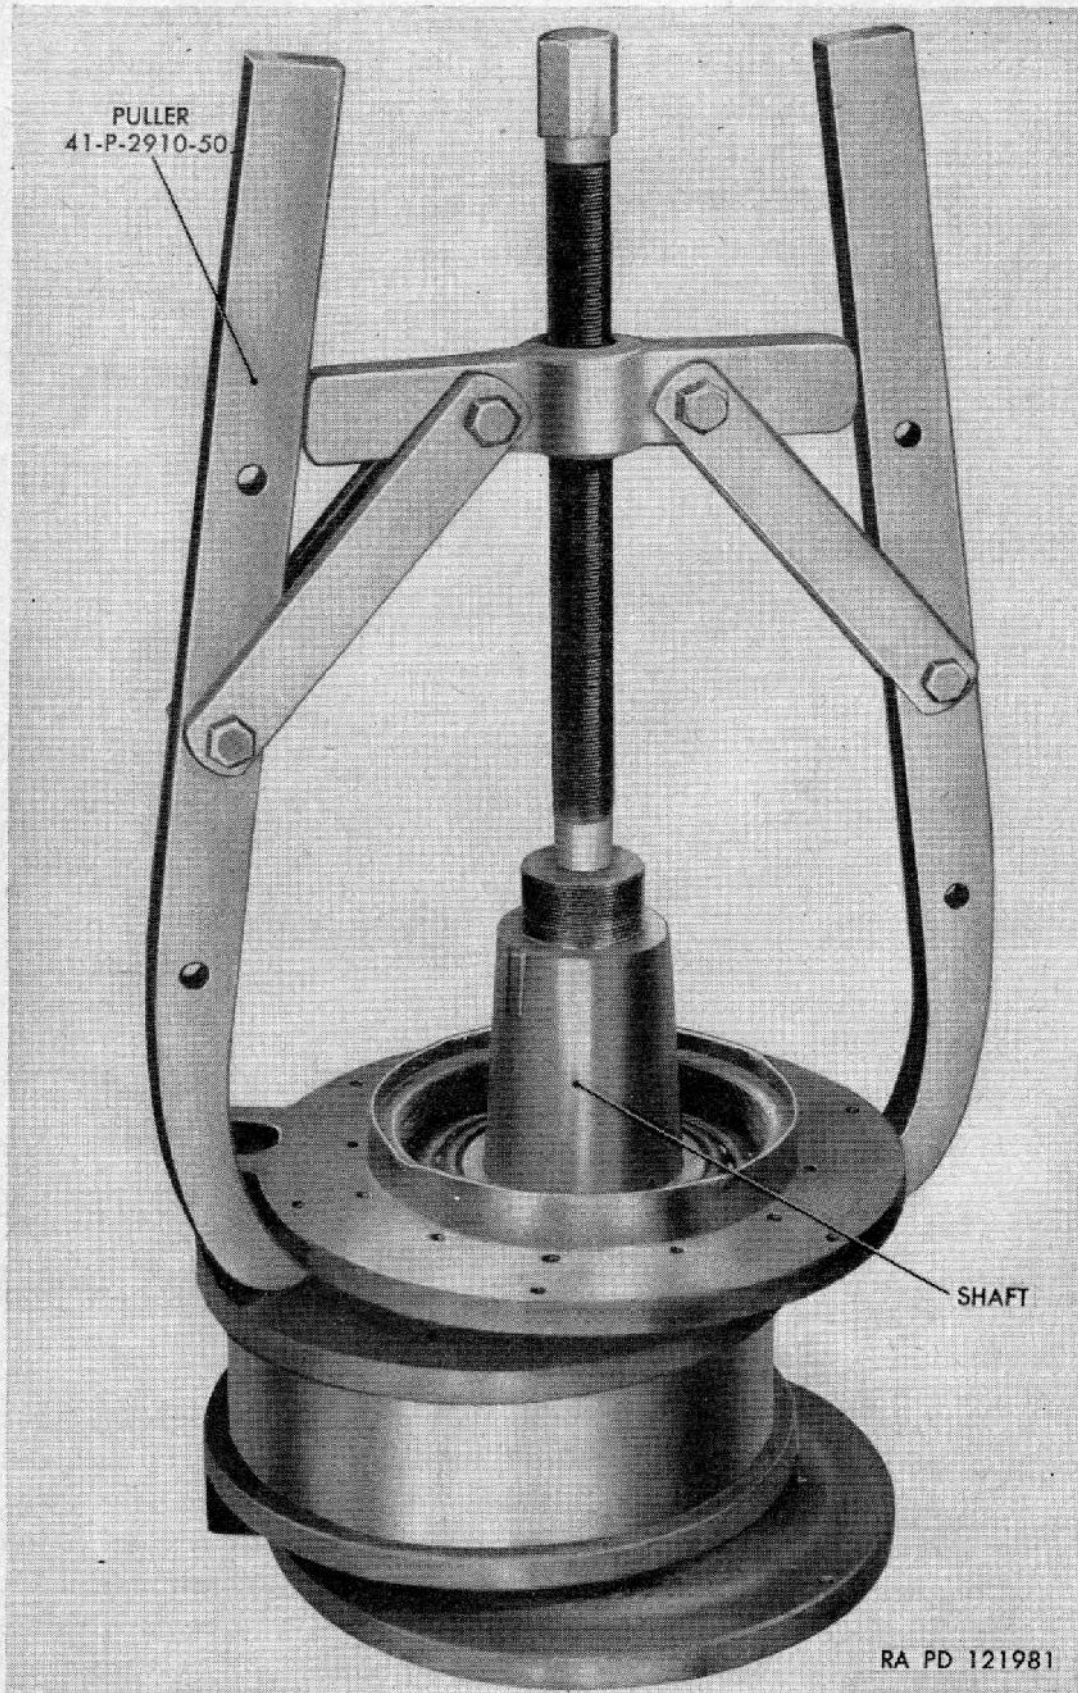

Figure 144. Forcing idler shaft and bearings from hub.
- (4) *Remove shaft and bearing*. Install gear puller 41-P-2910-50 on idler hub as shown in figure 144, and force idler shaft out of hub. One bearing and bearing cup will be removed